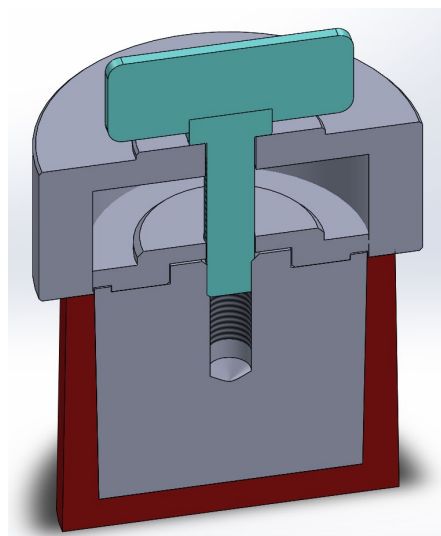

Figure 6. Configuration before pushing wax cup.
6. Lay the bottom support on top of the sample wax cup, and insert the nut (Figure 6).